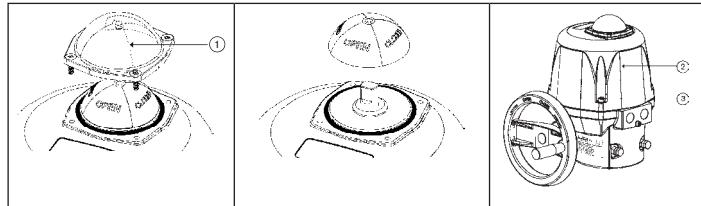

Fig. 7: Removing glass hood
- Remove glass hood of the position indicator 1 including the sealing ring by loosening the four fastening screws and remove the glass hood (see "Fig. 7").